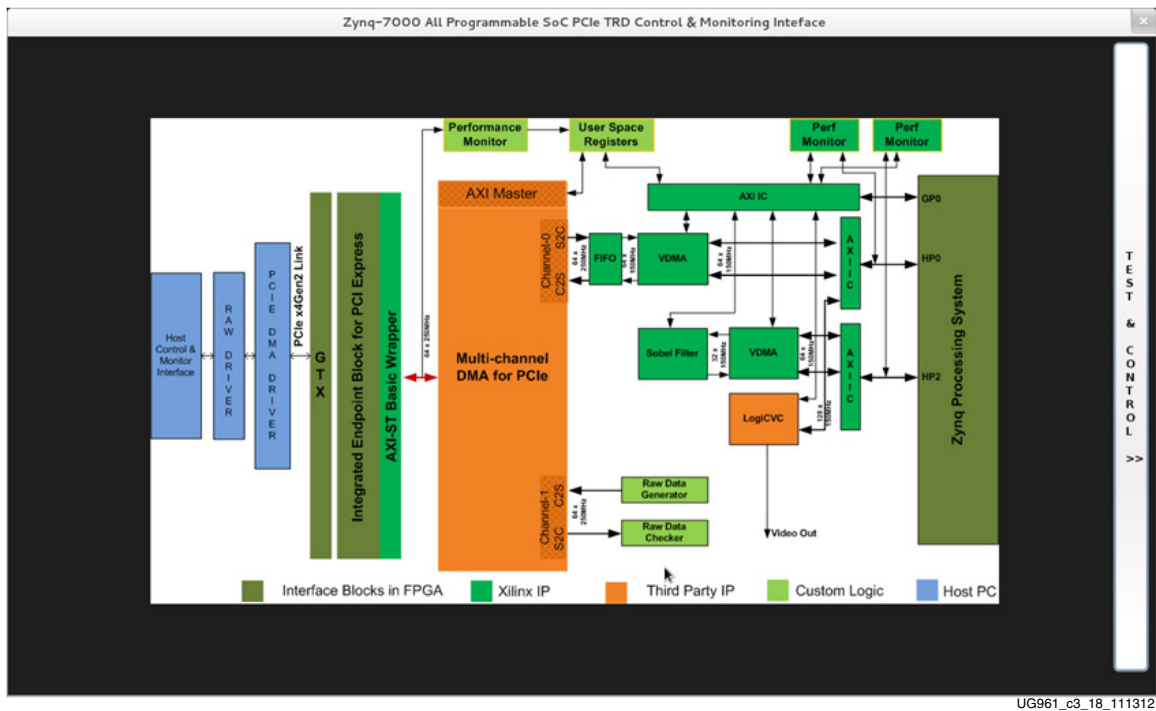

Figure 3-22: Design Block Diagram
16. Click on the **Block Diagram** option to view the design block diagram as shown in Figure 3-22.